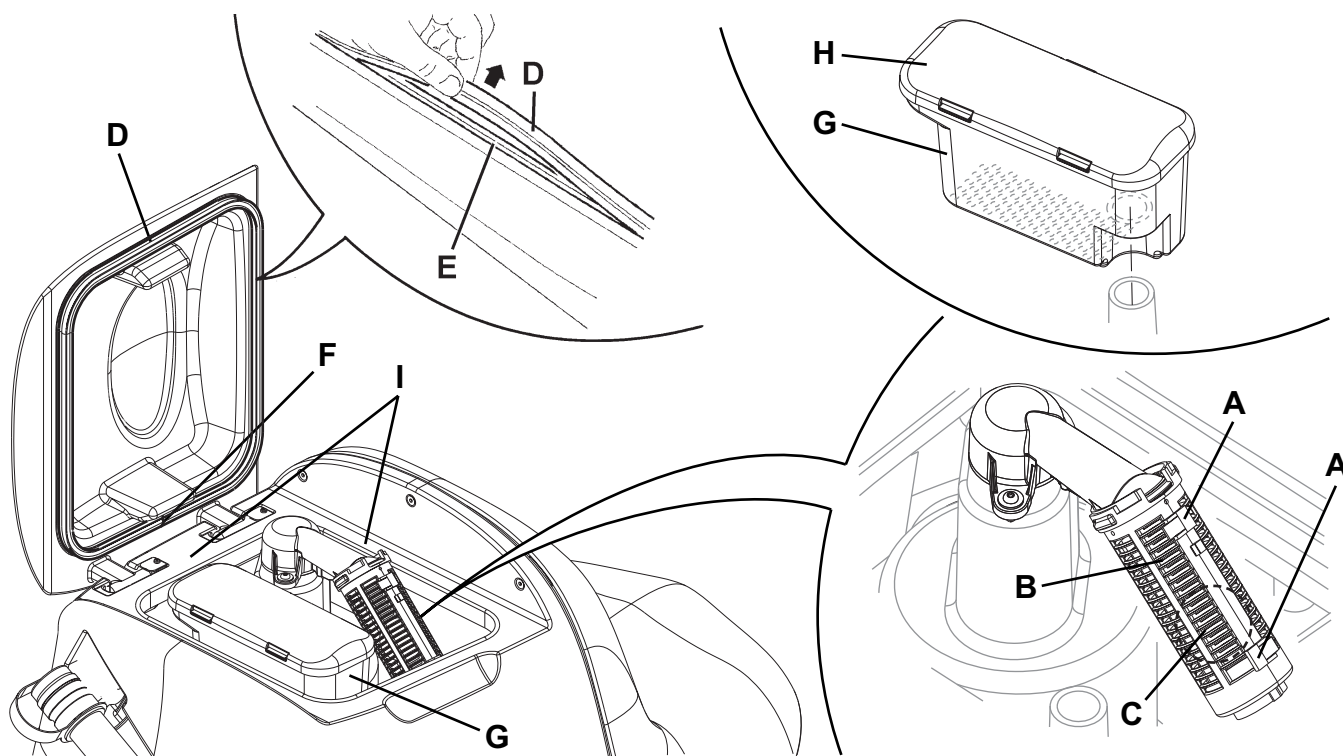

Figure 6
2. Insert the ignition key (58) and turn it to "I".
3. Lower the squeegee (30) by pressing the switch (63).
4. Turn the ignition key (58) to "0".
5. Disconnect the vacuum hose (31) from the squeegee.
6. Loosen the handwheels (34) and remove the squeegee (30).
7. Wash and clean the squeegee. In particular, remove dirt and debris from the compartments (A, Fig. 6) and the hole (B). Check that the front blade (C) and the rear blade (D) are integral and free from cuts and lacerations; if necessary replace them.
1. Clean the squeegee (Fig. 6) as shown in the previous paragraph.
2. Check that the edge (E) of the front blade (C) and the edge (F) of the rear blade (D) lay down on the same level, along their length; otherwise adjust their height according to the following procedure:
- Remove the tie rod (G), disengage the fastener (M) and adjust the rear blade (D); then engage the fastener and install the tie rod.
- Loosen the handwheels (I) and adjust the front blade (C), then tighten the handwheels.
3. Check the front blade (C) and rear blade (D) for integrity, cuts and tears; otherwise replace them according to the following procedure. Check the front corner (J) of the rear blade for wear; if necessary, overturn the blade to replace the worn corner with an integral one. If the other corners are worn too, replace the blade according to the following procedure:
- Remove the tie rod (G), disengage the fastener (M) and remove the retaining strip (K), then replace/overturn the rear blade (D).
- Unscrew the handwheels (I) and remove the retaining strip (L), then replace the front blade (C).
5. Clean the vacuum grid (27), release the fasteners (A, Fig. 6), open the grid (B) and recover the float (C) then clean carefully and reinstall.
6. Clean the container with debris collection grid (26), remove the container (G), remove the cover (H), then clean carefully and reinstall the vacuum hose.
7. Check the tank cover gasket (D) for integrity.